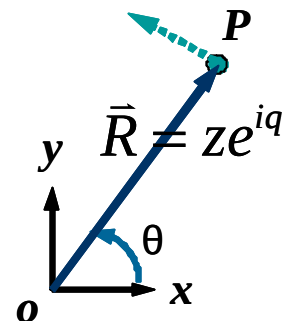

Figure 1
Problem #1 Consider a particle P moving in x-y plane as shown in figure 1. If the position vector of P refer to coordinate system x-y is expressed as $\vec{R} = ze^{iq}$, (1) derive the velocity and acceleration of P ; (2) explain the physical meaning of each term in the acceleration. (3) If OP is a rigid link and O is a revolute joint, which term in the acceleration will disappear? (18%)